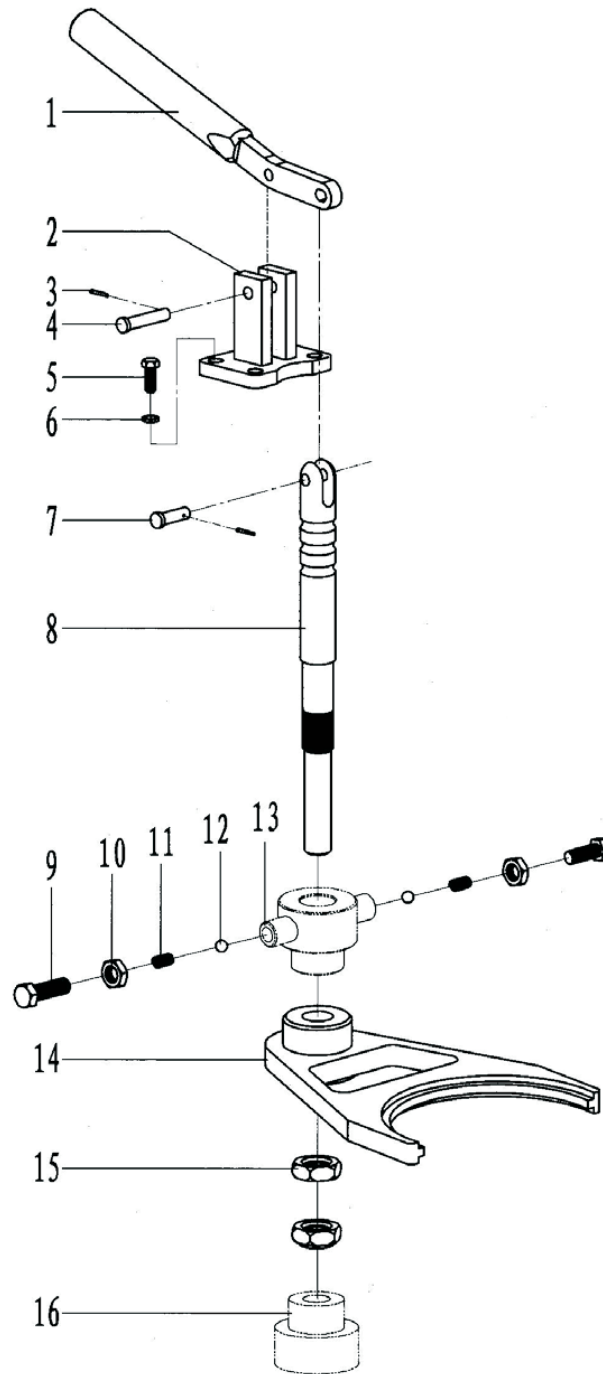

Fig.14
7.12 Gear shifting assembly(below) (Fig 14, Table 14)